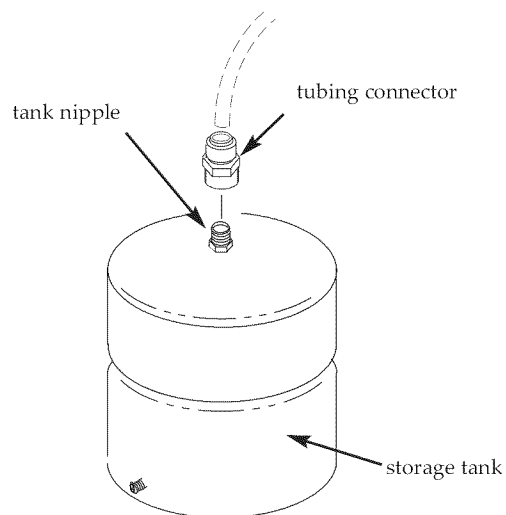

Figure 12
1. Apply thread sealing tape to the threads on the nipple at the top of the tank (max. 2 wraps). See Figure 12.
2. Locate the tubing connector. Tighten the tubing connector with a wrench onto the tank nipple 7-8 turns, being careful not to cross thread or overtighten. See Figure 12